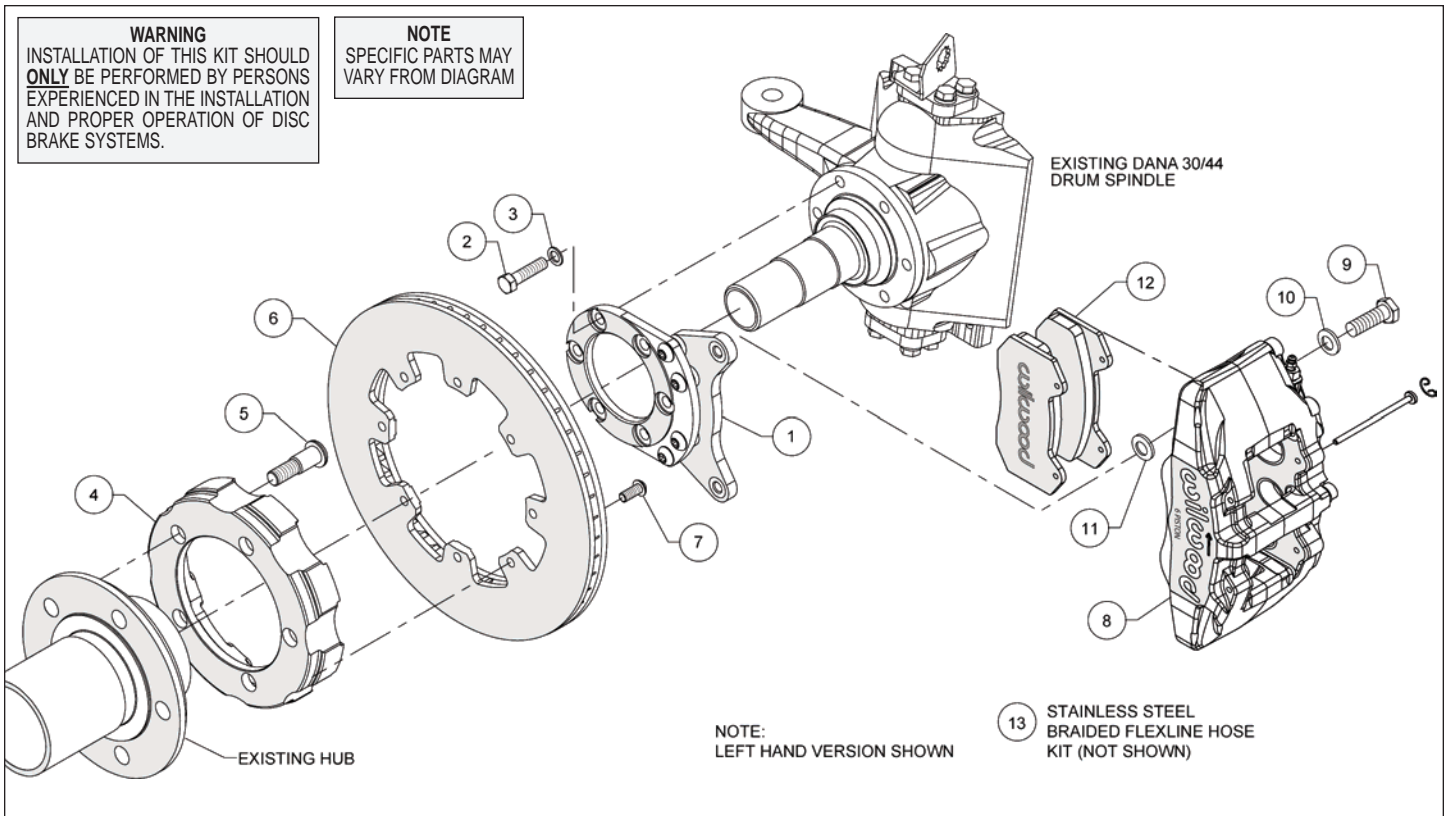
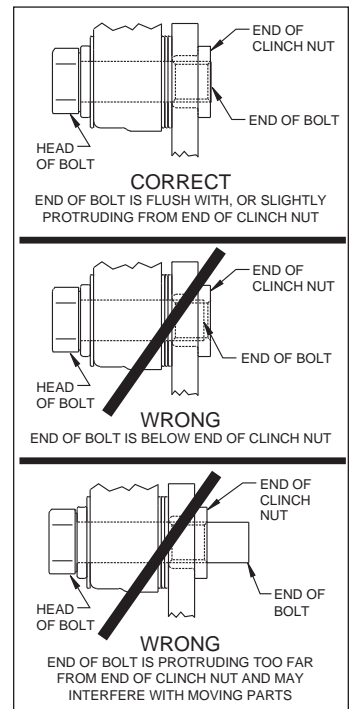

Figure 1. Typical Installation Configuration
Figure 3. Clinch Nut Engagement Diagram
**Assembly Instructions** (numbers in parenthesis refer to the parts list and Figure 1 on the preceding pages): **CAUTION:** *All mounting bolts must fully engage clinch nuts.* Be sure to check that all bolts are either flush or protruding through flanged side of clinch nut after shimming, Figure 3.
- Orient the caliper mount bracket (1) as shown in Figure 1 and Photo 1, and install using bolts (2), and washers (3). Ensure that the flanged heads of the clinch nuts in the bracket are facing outboard, Photo 1. Temporarily tighten the mounting bolts. **NOTE:** *The bracket must fit squarely against the mount bosses on the upright.* Inspect for interference from casting irregularities, machining ridges, burrs, etc. Remove bolts one at a time, apply red *Loctite*® 271 to the threads and torque to 40 ft-lb.
- Orient the hat (4) and the OEM hub as shown in Figure 1 and Photo 2. **NOTE:** *The hat must fit flush against the axle hub or excessive rotor run out may result.* Install the wheel studs (5) thru the holes in the hat and press into the existing hub. **NOTE:** *We recommend this procedure be performed by a qualified machinist.*
- Orient the rotor (6) and the hat/hub assembly as shown in Figure 1 and Photo 3. Attach rotor to hat using bolts (7). Using an alternating sequence, apply red *Loctite*® 271 to the threads, and torque to 25 ft-lbs.
- NOTE:** *Please reference the caution statement at the beginning of the assembly instructions. This kit contains distinct right and left hand calipers that must be mounted in a specific direction, as described below.* Mount the caliper (8) onto the caliper mounting bracket (1) using bolts (9) and washers (10), as shown in Figure 1. Initially place one .035" thick shim (11) on each bolt between the caliper and the bracket, Photo 5. Ensure that the caliper is mounted so the largest pistons are at the rotor exit end of the caliper, in relation to the direction of rotor rotation. Temporarily tighten the mounting bolts and view the rotor (6) through the top opening of the caliper. The rotor should be centered in the caliper, Photo 6. If not, adjust by adding or subtracting shims
between the bracket and the caliper. Always use the same amount of shims on each of the two mounting bolts. **NOTE:** The end of each bolt must be flush with or slightly protruding from the head of the clinch nut, as shown in Figure 3. If necessary place spare shims between washer (10) and caliper mounting ear to achieve the proper clinch nut engagement. Once the caliper alignment and clinch nut engagement are correct, remove the caliper bolts and caliper.
- Remove the two pad retaining pins from the caliper (8) by carefully popping out the pin retaining clips and sliding out the pins. Insert the brake pads (12) into the caliper from the bottom, Figure 1 and Photo 7, with the friction material facing the rotor. Secure the brake pads in place with the pad retaining pins and clips, Photo 8. Reinstall the caliper onto the caliper mounting bracket. Apply red *Loctite*® 271 to bolt threads (9), and torque to 40 ft-lb.